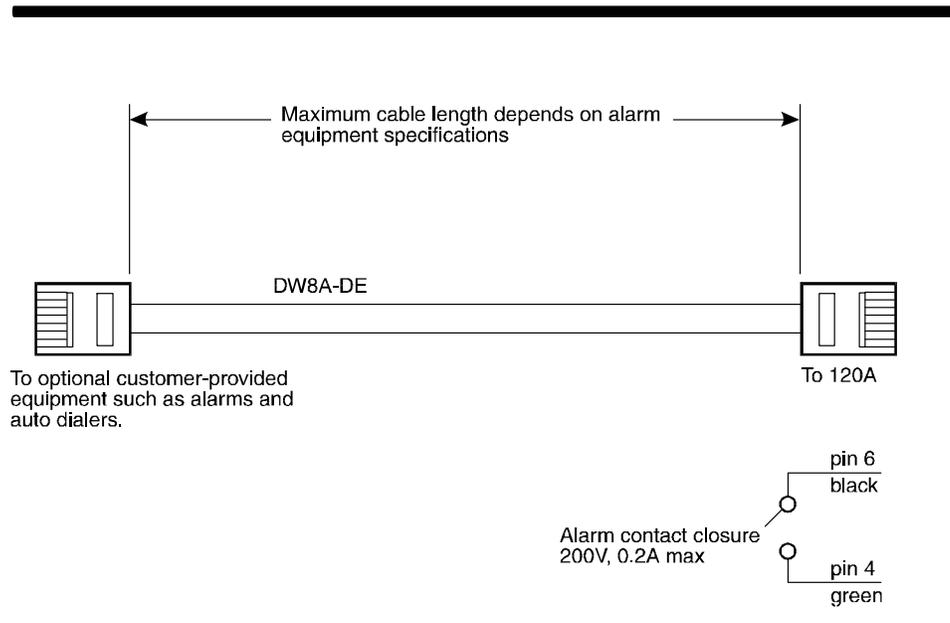

Figure 4. Alarm Equipment Cable
- The 120A contains two loop back circuits, one for testing wiring between the DS1 circuit pack and the CSU module and another for testing the data path through the CSU module. The TN464E and TN767D automatically use these loop backs to test the 120A during initialization diagnostics. Refer to figure 4 for more information on these loop backs. Also refer to the section *Integrated CSU Module Loop Back Capabilities*.
On the versions of the switches covered in this document, you cannot activate the line loop back at the far end CSU manually (e.g., by flipping a switch). Instead, you must use external DS1 test equipment and the test jacks on the DS1 circuit pack to send loop up and loop down codes to the far end. The 120A responds to industry standard in band, bit oriented, line loop up (1 in 5) code, line loop down (1 in 3) code, and ESF data link TABS payload loop back control codes received from the span. Refer to figure 4 for further details on loop backs internal to the integrated CSU module.